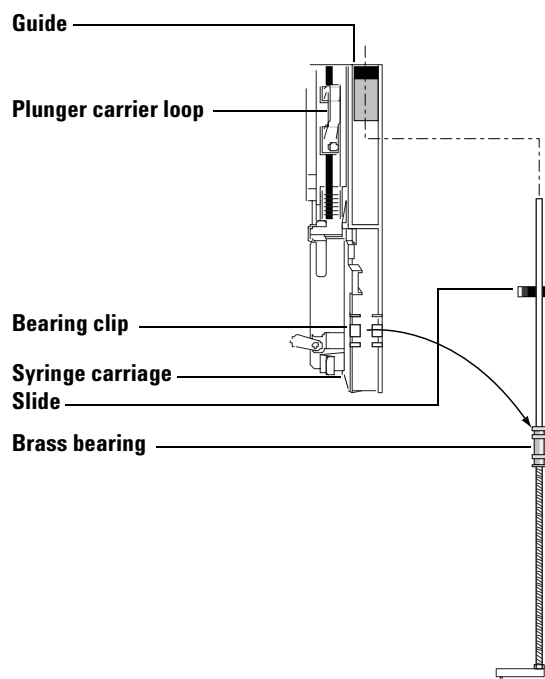

Figure 18 Removing the needle support assembly
- 3 Remove the syringe (Figure 18).